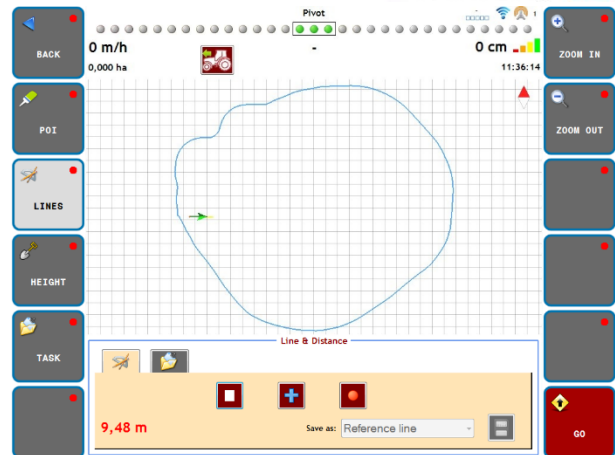

Figure 54 A point defined.
If the recorded line is saved as a **reference line**, an extra line is added to the loaded field. It can be selected in order to create an operation or headland line. This option can be useful, for example, if a contour field does not have a suitable side which can be used to carry out an operation (Figure 54). The added reference line can then be used as the main line for the operation.
2. Tap on the  button to set the first point (the 'A' point is defined). Recording of the line section starts simultaneously. Then drive to the end point of the line (Figure 54).